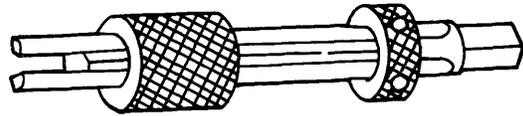

Figure 4-109. Tap Extractor
(2) **Tap extractors.** Tap extractors, shown in figure 4-109, are sized to remove taps with an outside diameter of 3/16 inch to 2 1/8 inches.